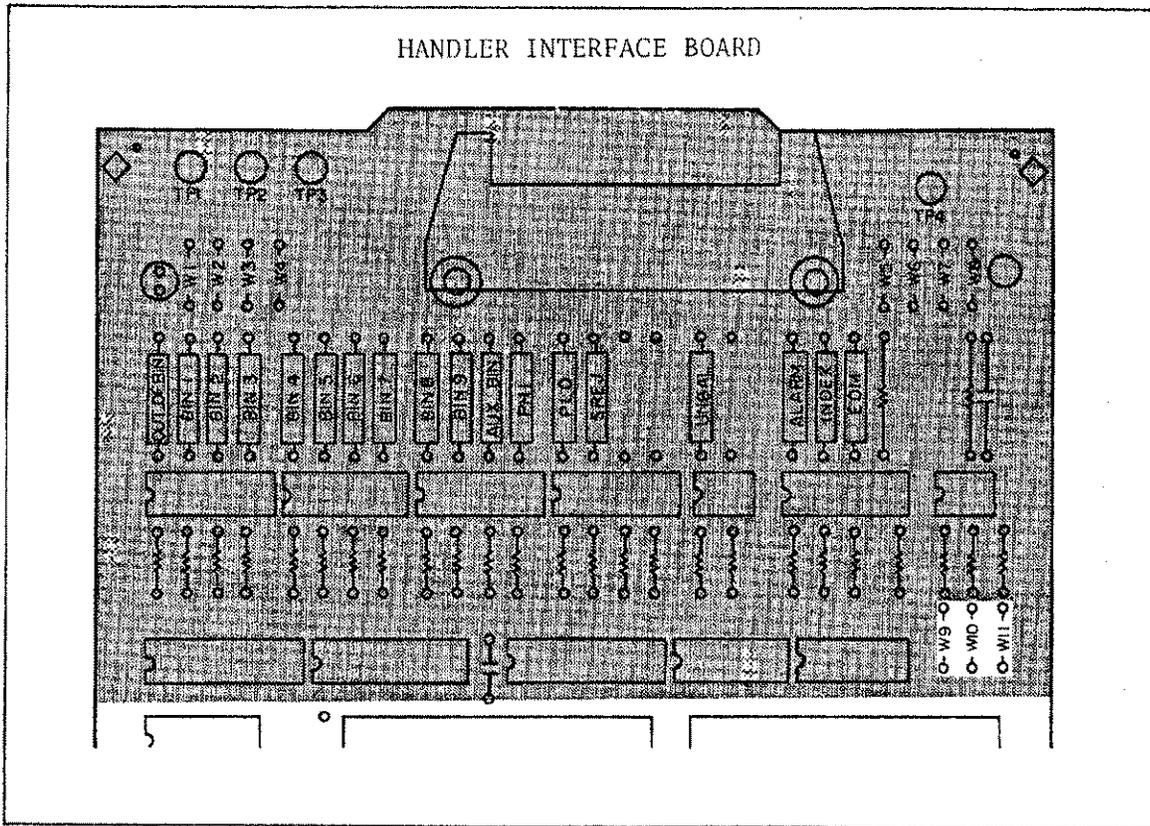

Figure 4-13. How to Set Up the Handler Interface Board 3
15. Set the jumpers for the input signals in accordance with Table 4-10 (See Figure 4-13).